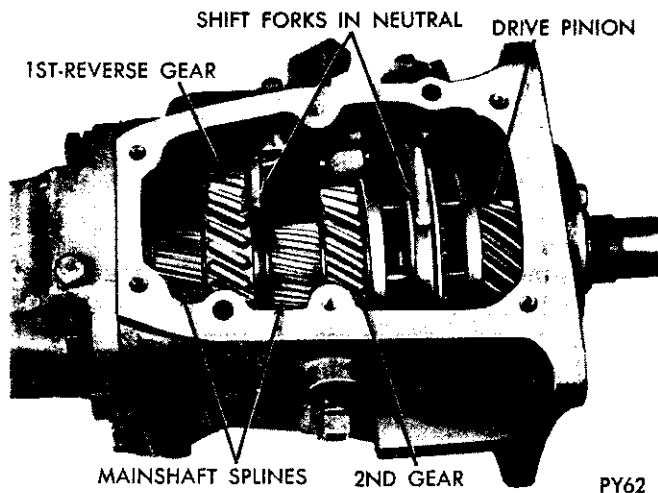
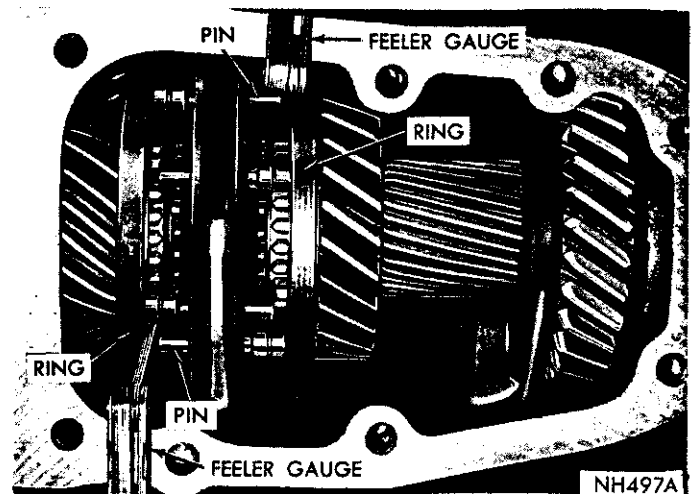

Fig. 15—A-903 Transmission—Cover Removed
Fig. 16—Measuring Synchronizer "Float"
- (1) Remove bolts that attach cover to the case. Remove cover and gasket (Fig. 15).
- (2) Using a pair of feeler gauges, measure synchronizer float. The measurement of the "float" should be taken before any further disassembly of transmission.
- (3) The synchronizer "float" should be .060 to .117 inch, when measured between synchronizer outer ring pin and opposite synchronizer outer ring (Fig. 16). This measurement must be made on two pins, 180 degrees apart with equal gap on both ends for "float" determination.
- (4) There should be a snug fit between pins and feeler gauges, similar to that obtained when measuring with a micrometer.